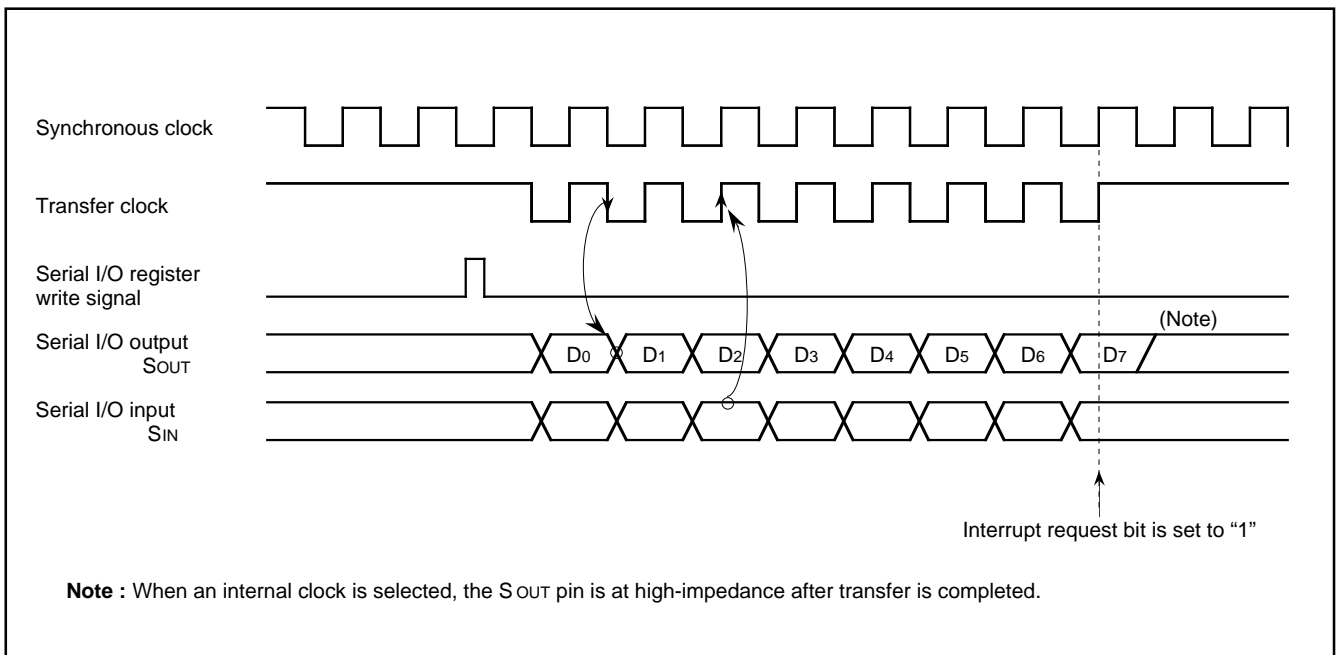
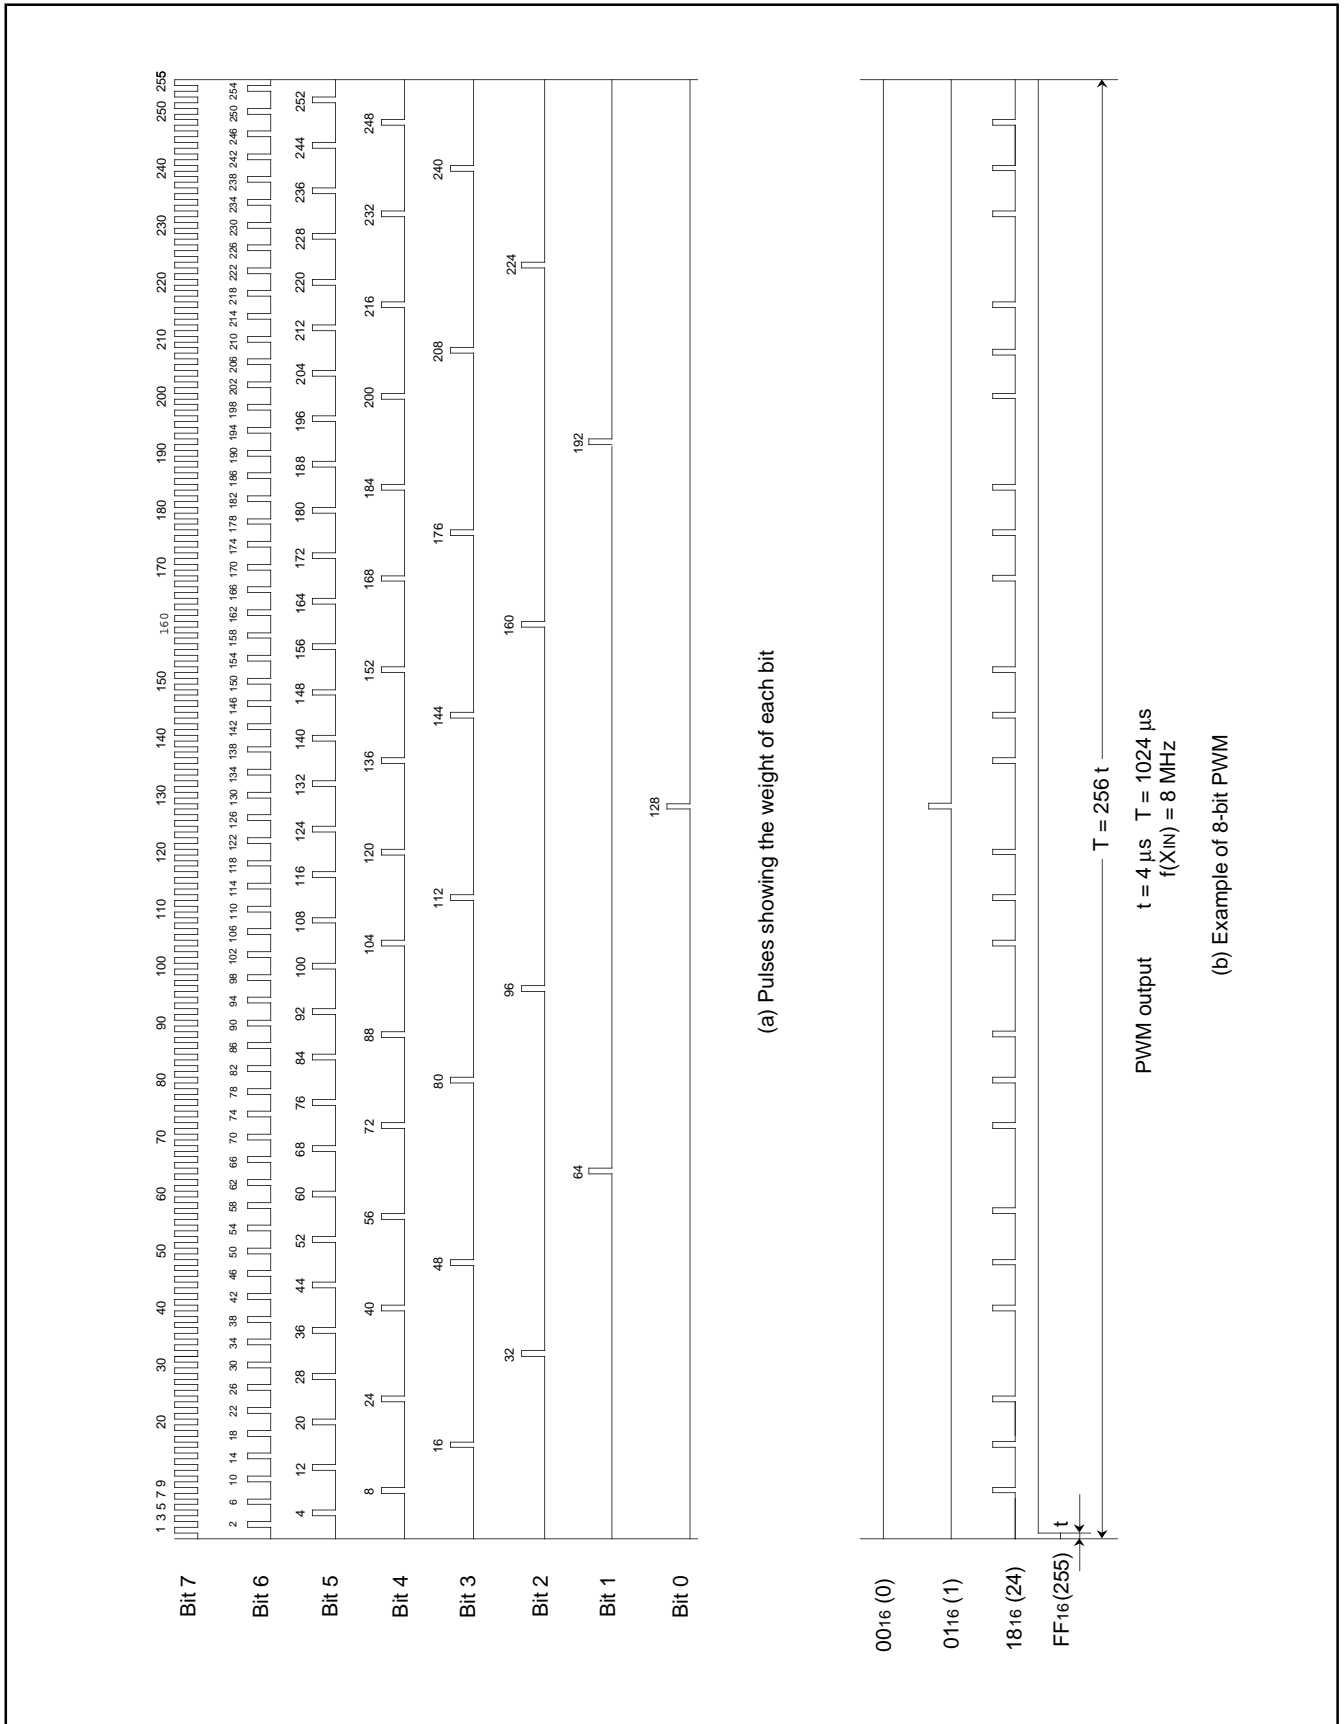

Fig. 20. Serial I/O Timing (for LSB first)
Fig. 23. 8-bit PWM Timing
External clock : The an external clock is selected as the clock source, the interrupt request is set to "1" after the transfer clock has been counted 8 counts. However, transfer operation does not stop, so the clock should be controlled externally. Use the external clock of 500kHz or less with a duty cycle of 50%. The serial I/O timing is shown in Figure 20. When using an external clock for transfer, the external clock must be held at HIGH for initializing the serial I/O counter. When switching between an internal clock and an external clock, do not switch during transfer. Also, be sure to initialize the serial I/O counter after switching.
Figure 23 shows the 8-bit PWM timing. One cycle (T) is composed of $256 (2^8)$ segments. The 8 kinds of pulses, relative to the weight of each bit (bits 0 to 7), are output inside the circuit during 1 cycle. Refer to Figure 20 (a). The 8-bit PWM outputs waveform which is the logical sum (OR) of pulses corresponding to the contents of bits 0 to 7 of the 8-bit PWM register. Several examples are shown in Figure 23 (b). 256 kinds of output (HIGH area: $0/256$ to $255/256$) are selected by changing the contents of the PWM register. A length of entirely HIGH cannot be output, i.e. $256/256$.
(4) Operating of 14-bit PWM
The output example of the 14-bit PWM is shown in Figure 23.